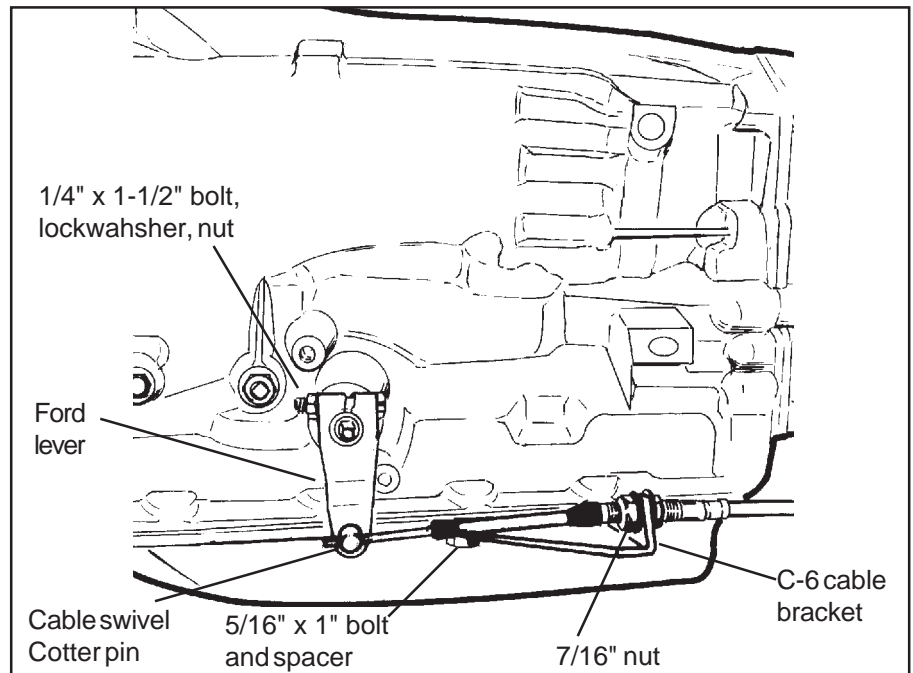

Figure 6
**C-6:** Remove the two transmission oil pan bolts from the left rear corner of the oil pan. Install the cable bracket into position with the two spacers between the pan and the bracket (See Figure 6). (If your transmission is equipped with a cast aluminum oil pan, these spacers can be omitted). Install the two supplied 5/16-18 x 1.00" bolts and tighten to 12-13 lb. ft. Do not overtighten as this can damage the pan gasket.